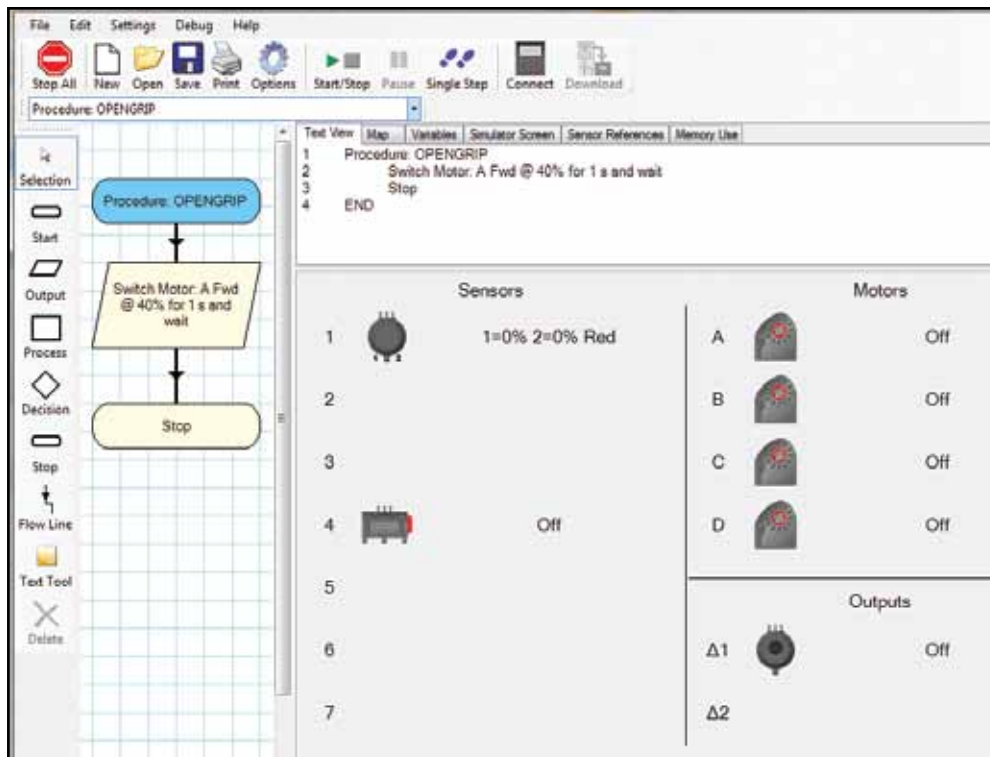

Figure 4c: Procedure "OPENGRIP".
- Figure 4c shows the "OPENGRIP" logic flow where the motor A is in reverse drive mode at 40% power for 1 second causing the robot to drop the ball.